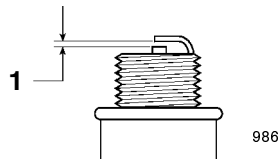

Figure 38
4. Set the gap on the new plug as shown in Figure 38.